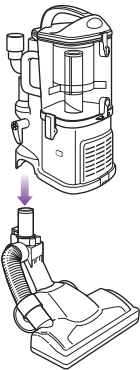

Fig. 7
- 2 Align the tube of the floor nozzle with the tube on the detachable canister and lower until you hear the two pieces click into place. **(Fig. 7)**
- 1 Separate the detachable canister from the floor nozzle. (See page 8, Fig. 7)